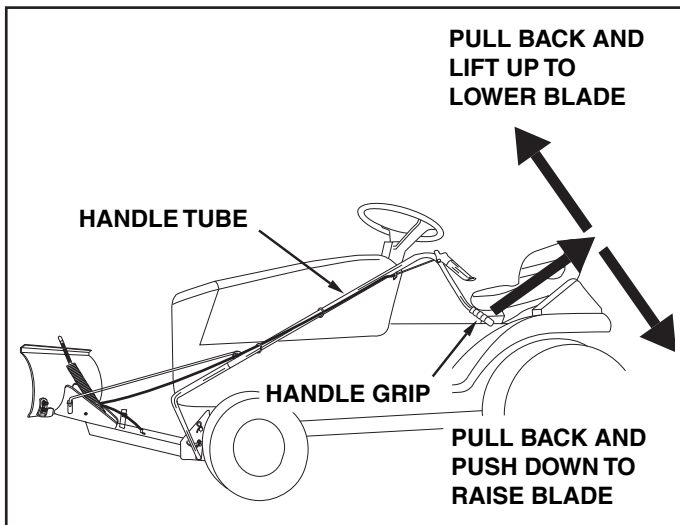

FIGURE 22
- Use the handle grip located on the end of the handle tube. To raise the blade, pull back while pushing down on the handle grip. To lower blade, pull back while lifting up on handle grip. See figure 22.